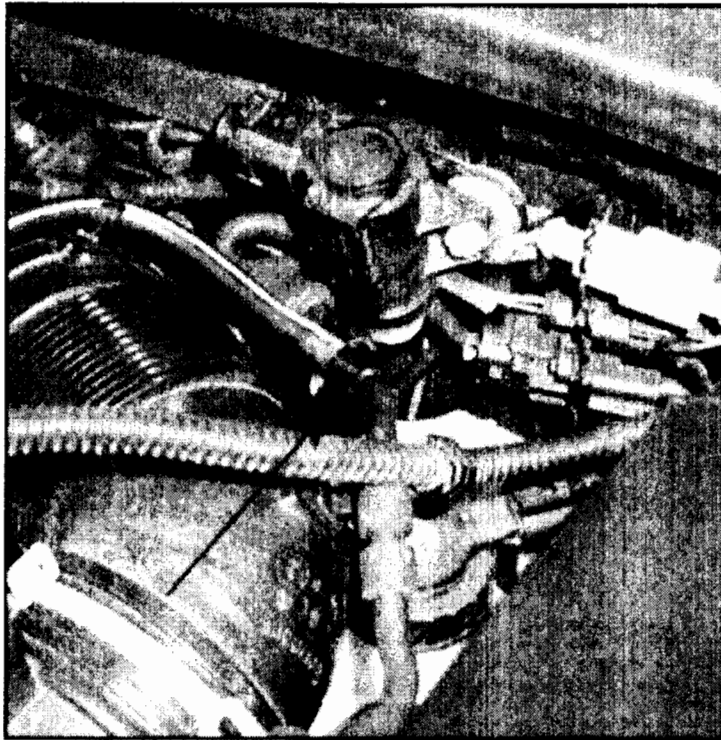

Figure 6
- Install splice as indicated in figure 6.
Note the white tracer on the vacuum hose in figure 6.